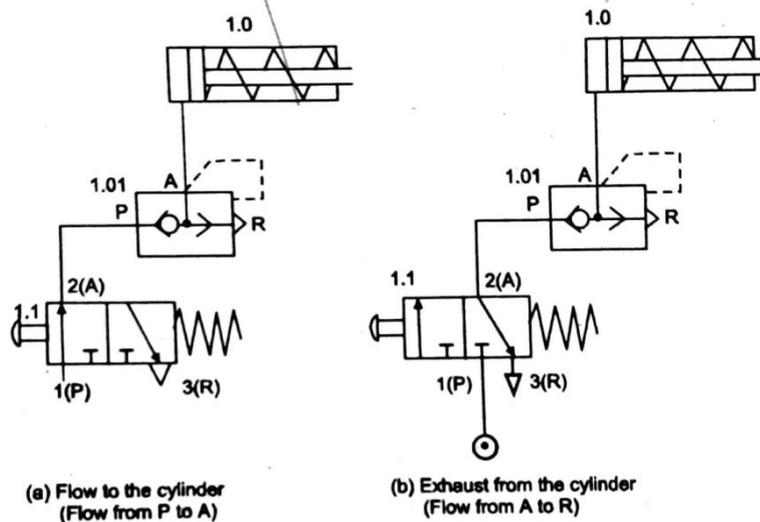

Fig. 4.28 Quick exhaust valve in pneumatic circuit (a) Flow to the cylinder (Flow from P to A) (b) Exhaust from the cylinder (Flow from A to R)
The circuit for controlling the operation of a single acting cylinder is shown in fig. 4.28. It includes a 3/2 d.c.v. and a quick exhaust valve.
When the spool of d.c.v. is moved to extreme left: The piston is moved from right to left by the return spring force. The exhaust air then enters the port (A) of the exhaust valve. The supply port (P) of the quick exhaust valve is closed by the disc. The exhaust air is now expelled to atmosphere through the large orifice (R). Thus, the resistance offered to the exhaust air is reduced and the piston speed is increased. [Fig. 4.28].